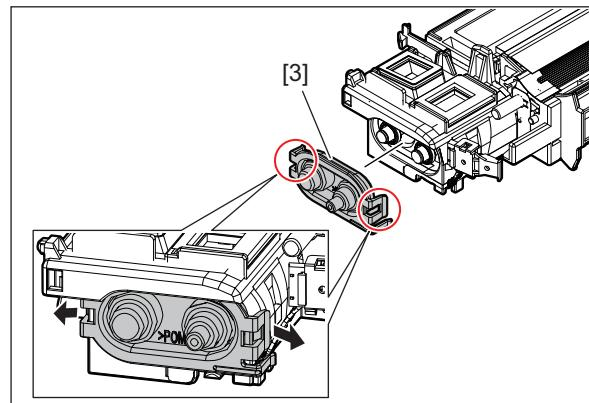

Fig. 4-171
- (6) Push in a new oil seal parallel to the frame or bushing Refer to Fig.4-171.
(7) Apply the grease (Alvania No.2; amount of 2 rice grains) on entire surface of the oil seal evenly.